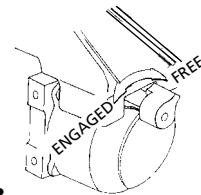

Figure 13
Rotate the clutch lever to the "Free" position as shown in Figure 13. If there is a load on the wire rope, the clutch lever may not turn easily. DO NOT FORCE THE CLUTCH LEVER. Release tension on the wire rope by jogging out some of the wire rope, then try releasing the clutch. Pull out the wire rope and secure to anchor or load. Check that there are at least five (5) turns of wire rope left on the drum. Re-engage the drum by rotating the clutch lever to the "Engaged" position (see Figure 13).